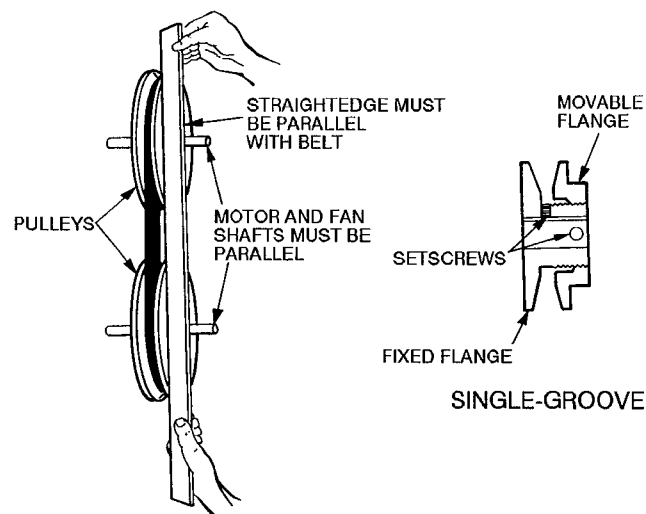

Fig. 26 — Indoor-Fan Pulley Adjustment
3. Loosen movable pulley flange setscrew (see Fig. 26).
To align fan and motor pulleys (see Fig. 26):